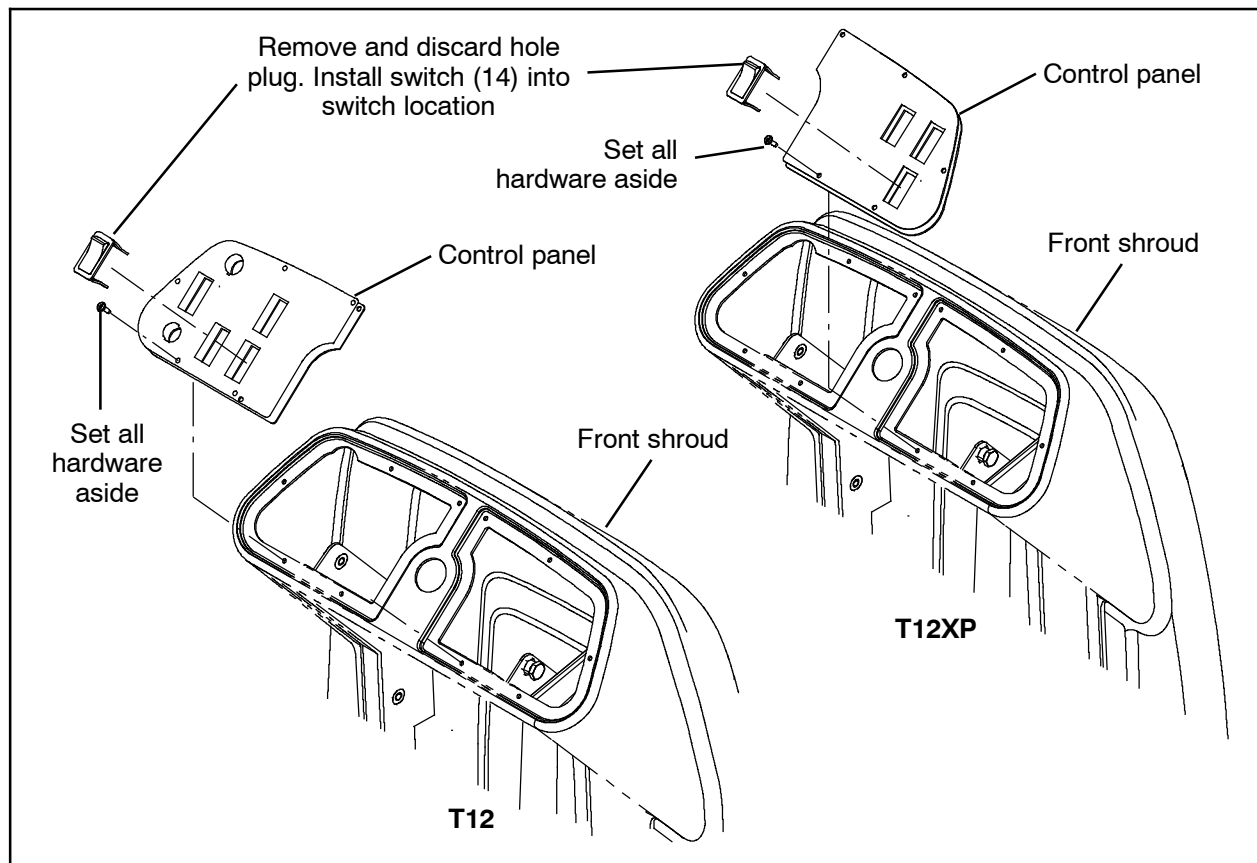

FIG. 2
10. Carefully remove the control panel from the machine. Do not break any wire connections. Set the hardware aside. (Fig. 2)
11. Remove the hole plug from the control panel. Discard the hole plug. (Fig. 2)
12. Insert the rocker switch (14) into the control panel where the hole plug was previously located. (Fig. 2)
13. Connect the main wire harness to the rocker switch (12). (Fig. 2 / Fig. 3 / Fig. 4)
14. Reinstall the control panel onto the machine. (Fig. 2)